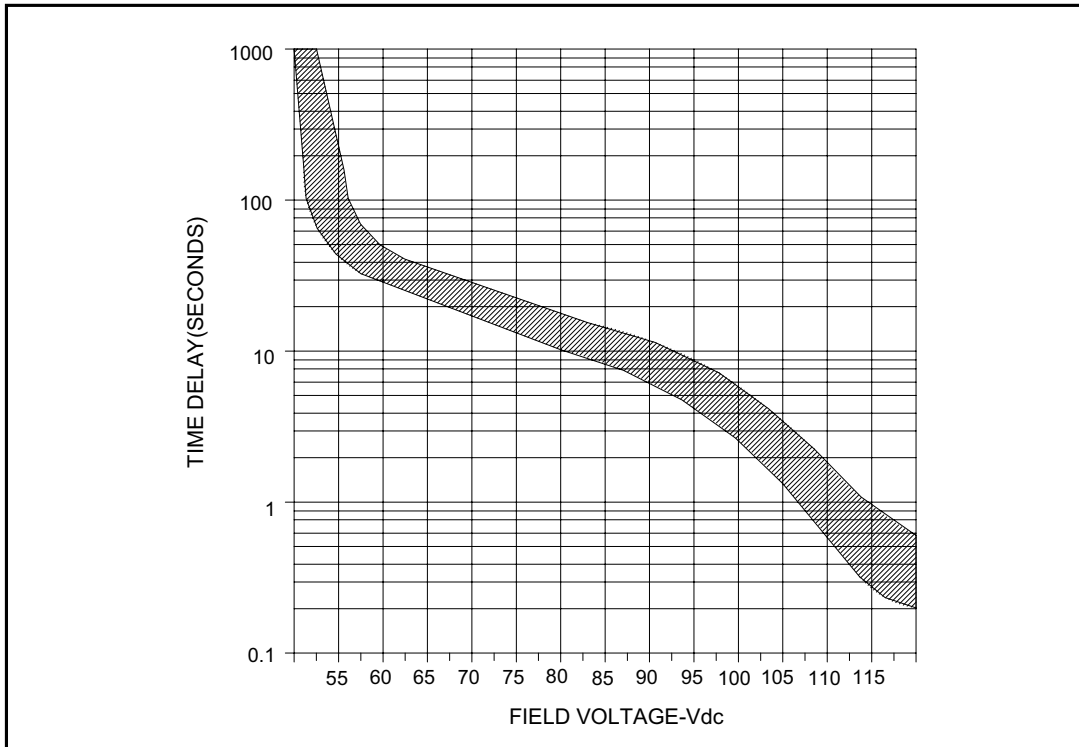

Figure 1-2 Typical Inverse Time Delay Characteristic Curve.
- a. Over-excitation shutdown is provided by removing output excitation should the regulator’s output voltage exceeds 52 ± 2 Vdc for a sufficient time. The inverse-time delay curve is shown in Figure 1-2. For voltage above 95 ± 5 Vdc, there is a second and much shorter inverse time curve.